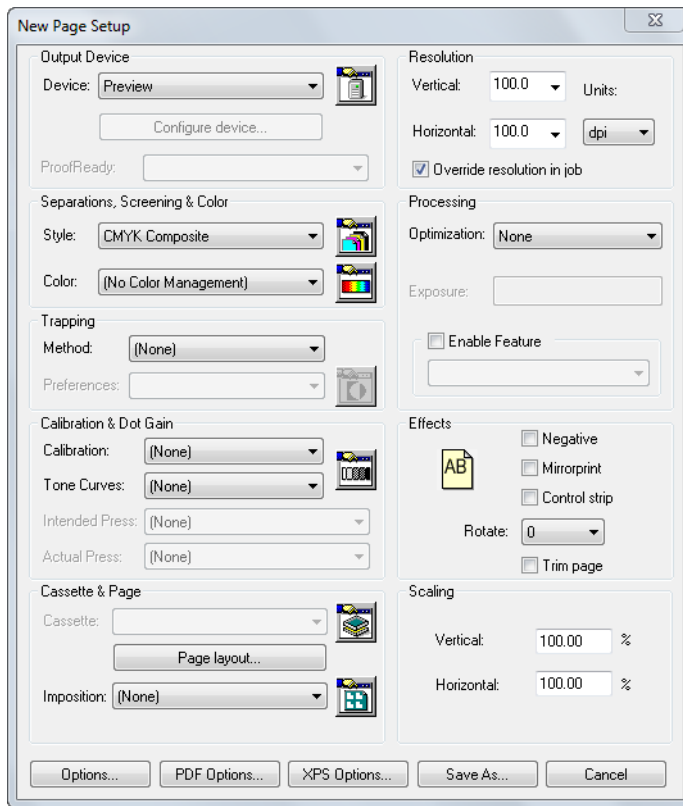

Figure 3.2 New Page Setup dialog box
3. In the Edit Page Setup dialog box, shown in Figure 3.2, set the **Device** to `None` and the **Vertical** and **Horizontal** resolutions to something small, say 72 dpi. If you change the **Device**, you must choose a separations style listed in the **Style** drop-down list and, for some devices, a cassette name from the **Cassette** drop-down list.
2. In the Page Setup Manager dialog box, select `Default Page Setup` and click **Copy** to display the New Page Setup dialog box. The New Page Setup dialog box is very similar to the Edit Page Setup dialog box, shown in Figure 3.2 on page 47.